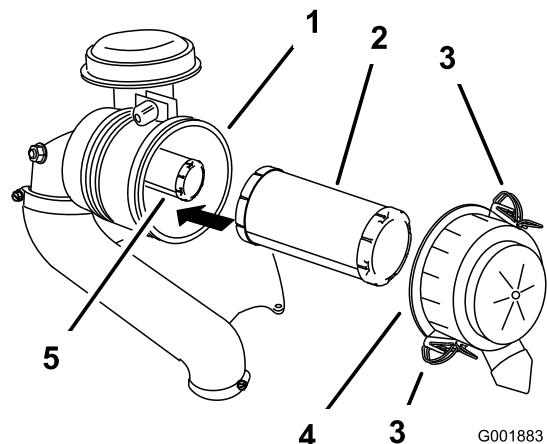

Figure 29
3. Release the latches on the air cleaner and pull the air-cleaner cover off the air-cleaner body (Figure 29).
5. Gently slide the primary filter out of the air-cleaner body (Figure 29).
- If you are replacing the safety filter, carefully slide it into the filter body (Figure 29).
- Carefully slide the primary filter over the safety filter (Figure 29).
- Install the air-cleaner cover with the side indicated as **up** facing upward and secure the latches (Figure 29).